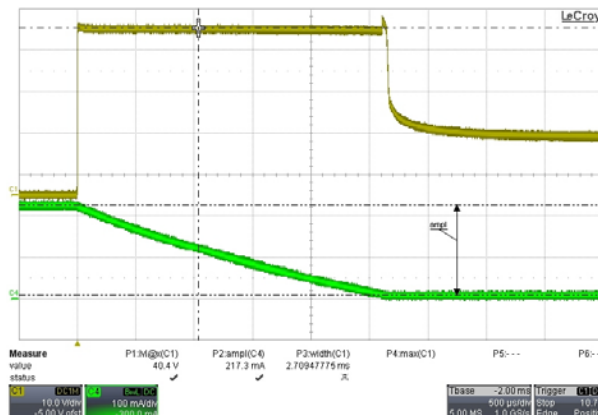

Figure 4. Repetitive Clamping Energy Test
2. Testing particulars, 2M pulses,  $V_{bat} = 15$  V, 63 Ω, 390 mH,  $T_A = 25^\circ\text{C}$ . (See Figure 4)